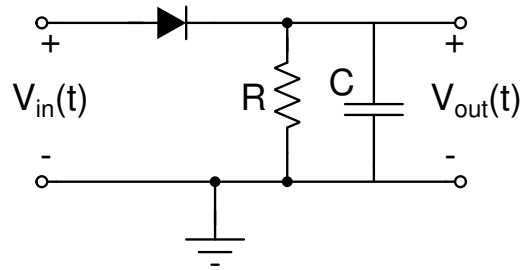

Figure 2: After adding capacitance
- (f) Connect a capacitor across the resistor as shown in Fig. 2 and observe the output. (You can take $47\text{ }\mu\text{F}$ and $100\text{ }\mu\text{F}$.)